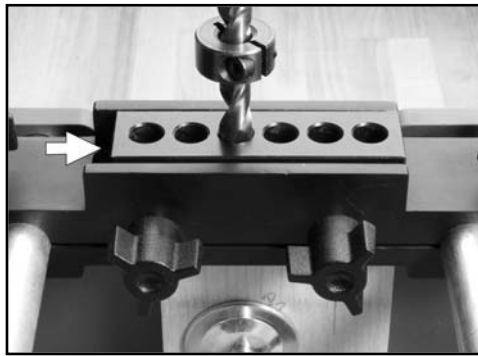

Fig. 11
12. Drill holes for part "B" as shown in the Quick Reference Guide. (Fig. 11)